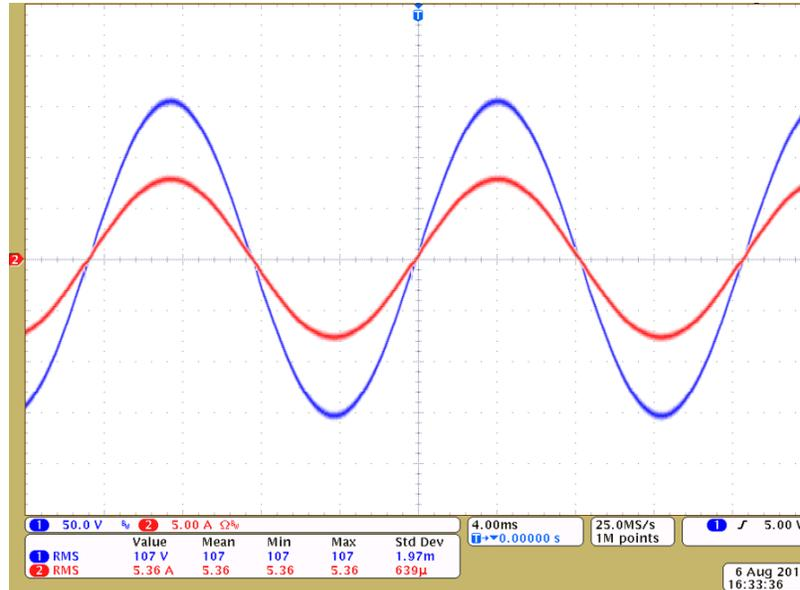

图 34. Output Voltage Regulated With Linear Load in Build 3
10. Observe a regulated voltage at the output, which will be similar to as shown in 图 34.
Note in 图 34 the output is being regulated at full power for this design, and this is not be the exact power level one will reach following the previous steps. 图 34 is shown as an illustration of full power operation which is at maximum power level.